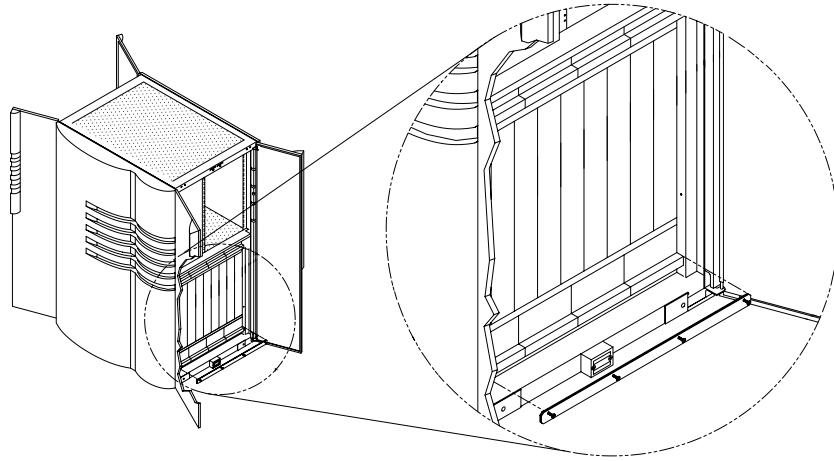

FIGURE 5-2 Installing the Lower Fan Tray Retaining Brackets
- 3. Attach the lower fan tray retaining brackets (P/N 340-4352-01) to both the front and rear lower fan trays (FIGURE 5-2).**